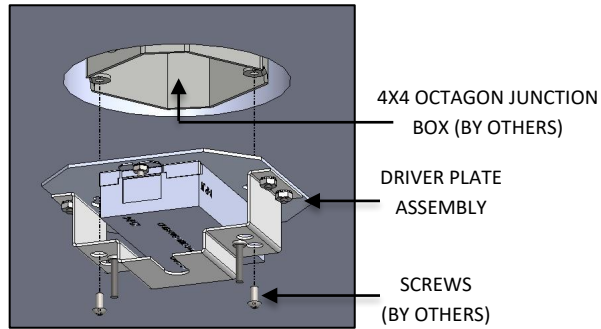

FIG. 8 – DRIVER PLATE INSTALLATION
3. Attach DRIVER PLATE ASSEMBLY to JUNCTION BOX (by other) with screws (by other). as shown below in FIG. 8.